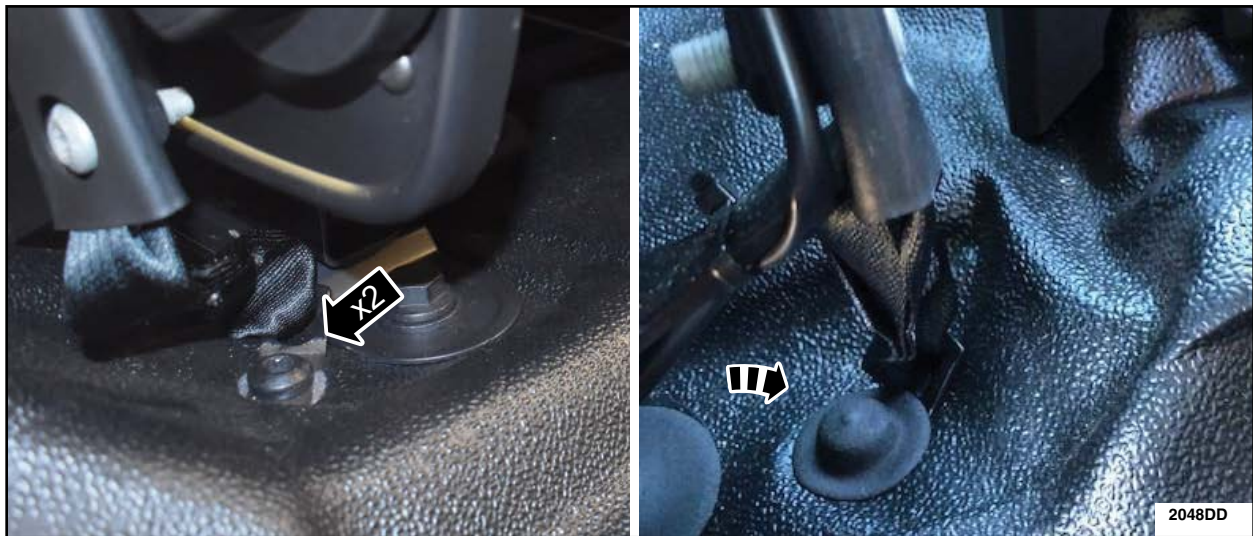

FIGURE 16
1. Install a thermal protective cover over both front seatbelt buckle anchor bolts as shown in Figure 16.